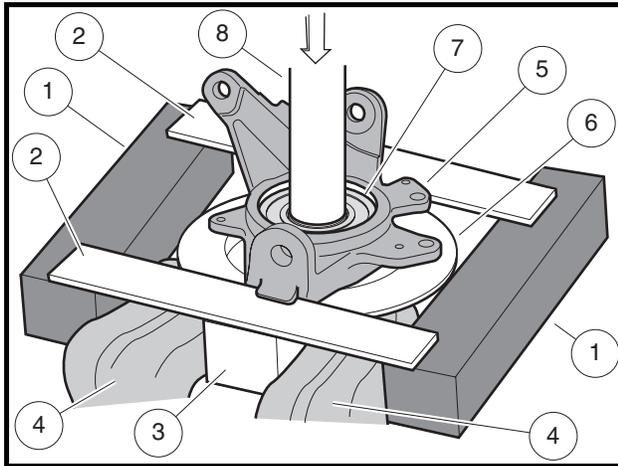

Figure 6-11 Position Steel Blocks and Upright on Press
- 10.1. Place 2 x 2-inch, or larger, steel blocks (1) onto the platen bars of a hydraulic press (**Figure 6-11, Page 6-12**).